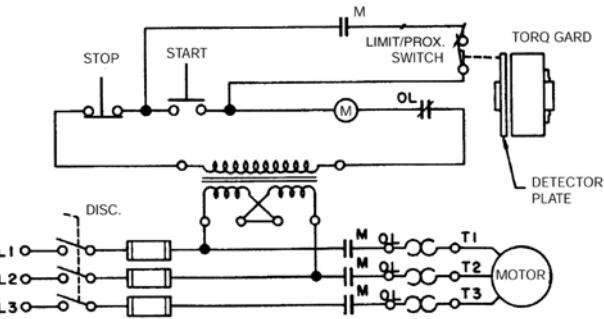

Figure 3
**Note:** Refer to Figure 3 "Typical Wiring Diagram". Limit/prox. Switches are available with additional contacts to further acuate warning alarm systems.